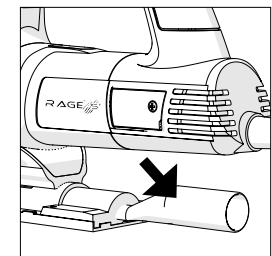

Fig 7
- Withdraw the Dust Extraction Adaptor tube, if fitted, and store safely for future installation. (Fig. 7)